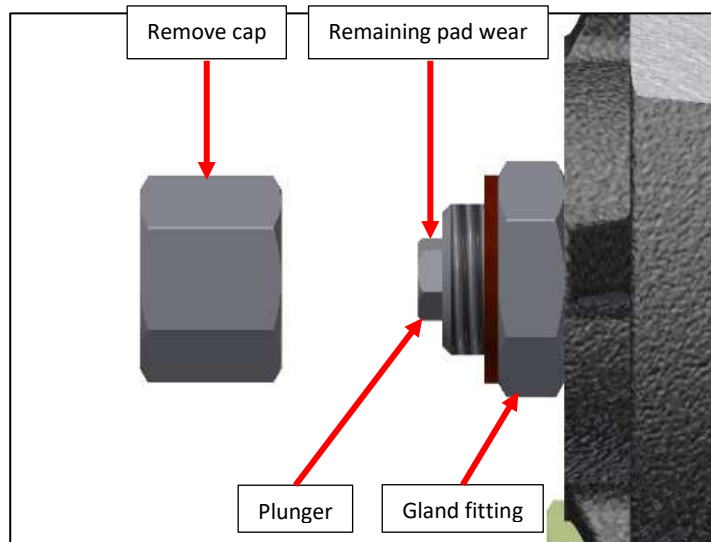

Fig 9: Rear pad wear indicator schematic.
5. The plunger should project out from the gland fitting (see Fig 9).